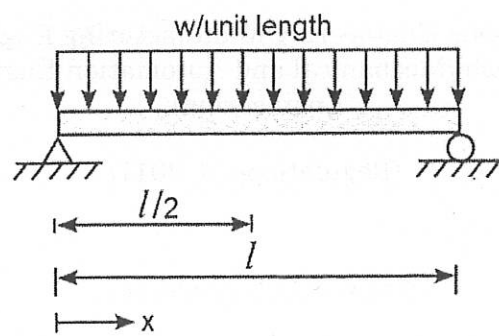

Figure. 1
- (b) A simply supported beam subjected to uniformly distributed load over entire span is shown in Figure 1. Determine the deflection at midspan by using Rayleigh-Ritz method. Use one term trigonometric series for deflection 'y'.